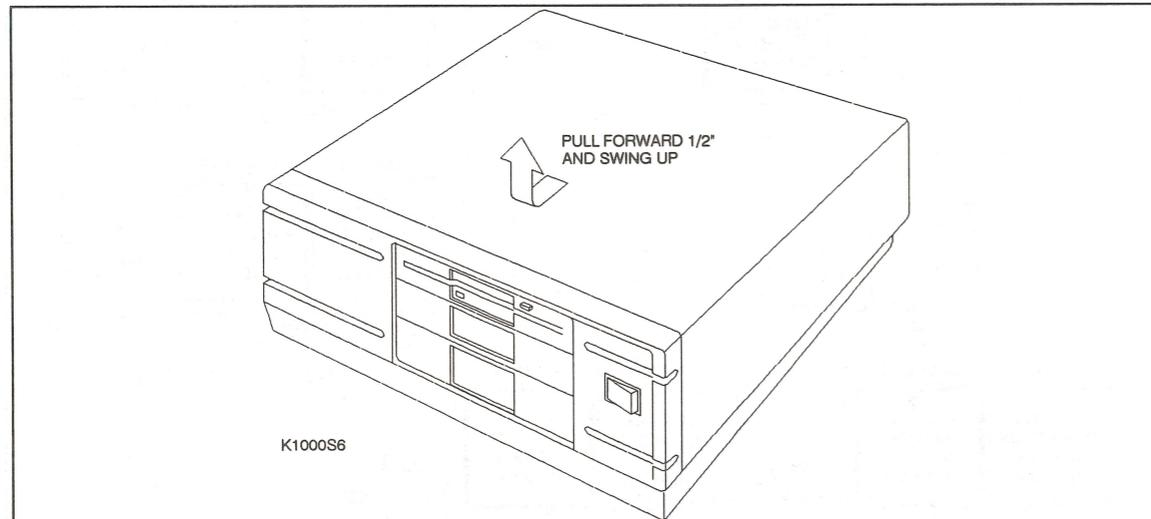

Figure 7: Removing the Computer Cover
5. Slide the cover forward about 1/2 an inch, and then lift it up and off the system unit as shown in Figure 7.